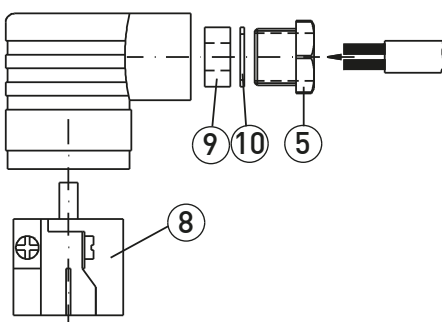

Fig. 4
- ↪ Insert the connection cable through the screwed cable gland ⑤, the pressure ring ⑩ and the rubber insert ⑨ into the cable socket (→ Fig. 4).